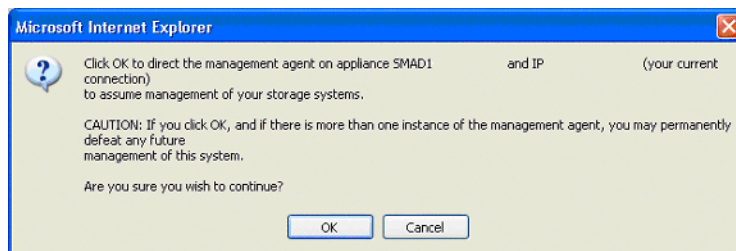

Figure 38: Assuming management of your storage message
4. Click **OK**. A message similar to Figure 38 indicates that you are about to assume control of the storage with another SMA.